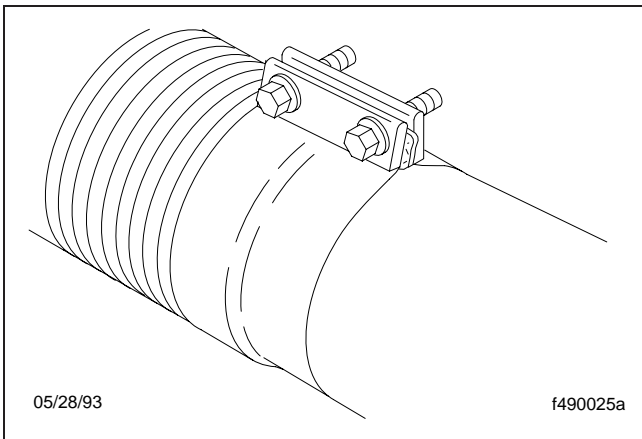
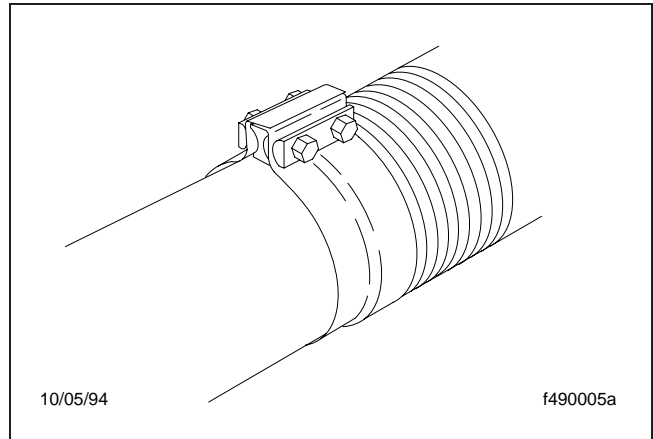
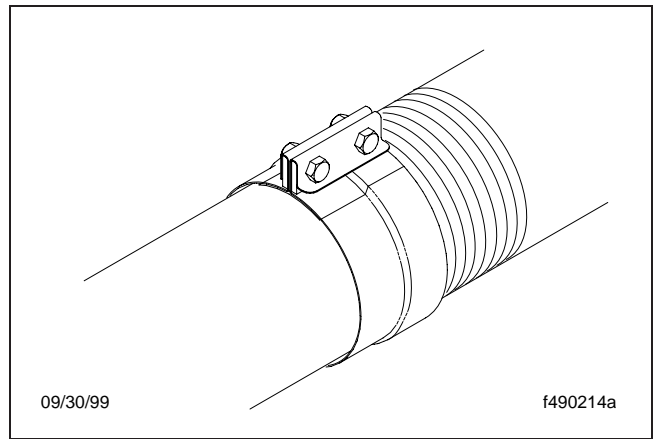

Fig. 3, Donaldson Sealclamp Wide-Band Exhaust Clamp
Fig. 4, Torca Torcite Wide-Band Exhaust Clamp
Fig. 5, Gemi Wide-Band Exhaust Clamp
6. Check for leakage at all wide-band exhaust clamps. See **Fig. 3**, **Fig. 4**, or **Fig. 5**.